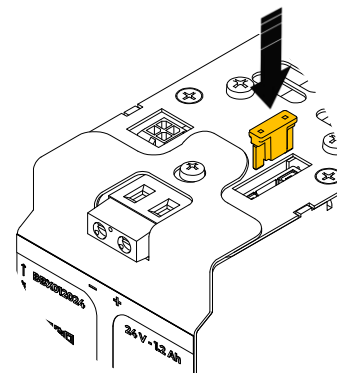

Figure 5.7 – BBX Battery box –Inserting a fuse
5. Insert back the fuse (see Figure 5.7)